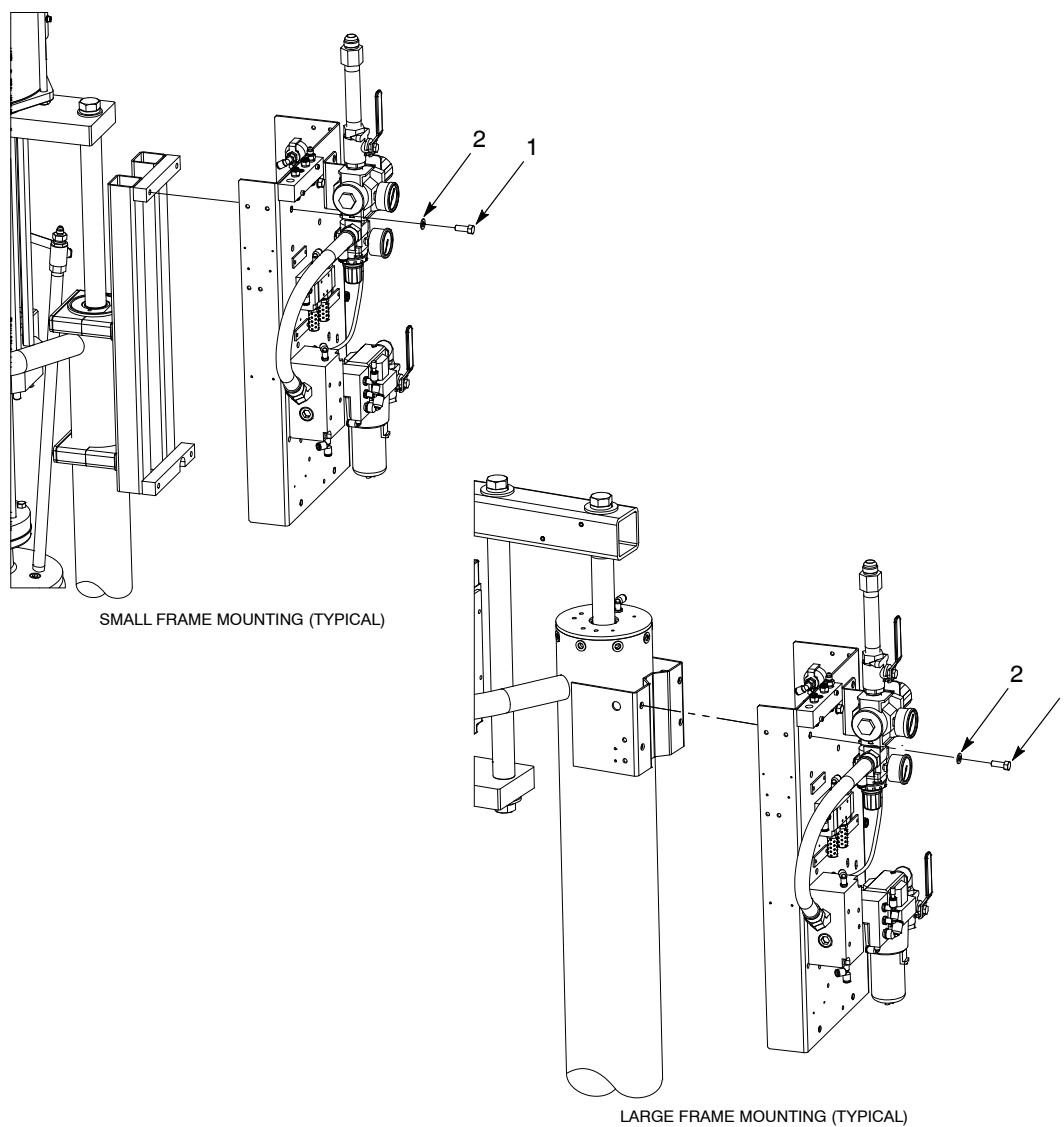

Figure 3 Installing the Control Module
See Figure 3. Mount the control module onto the bulk unloader using the supplied screws (1) and washers (2). Tighten the screws securely.